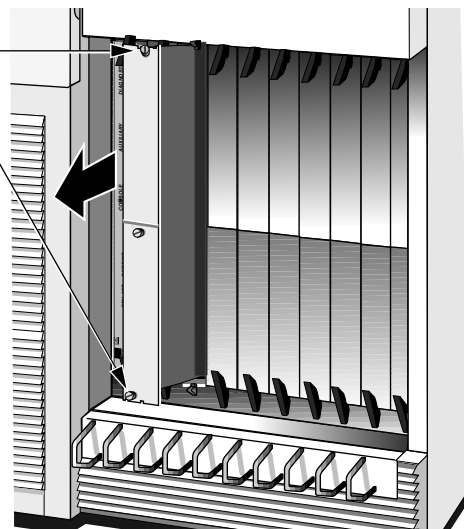

Figure 1-5 Removing a Filler Panel from an Extended Chassis
- 1 Remove the filler panel from the slot you have selected. See Figure 1-5.